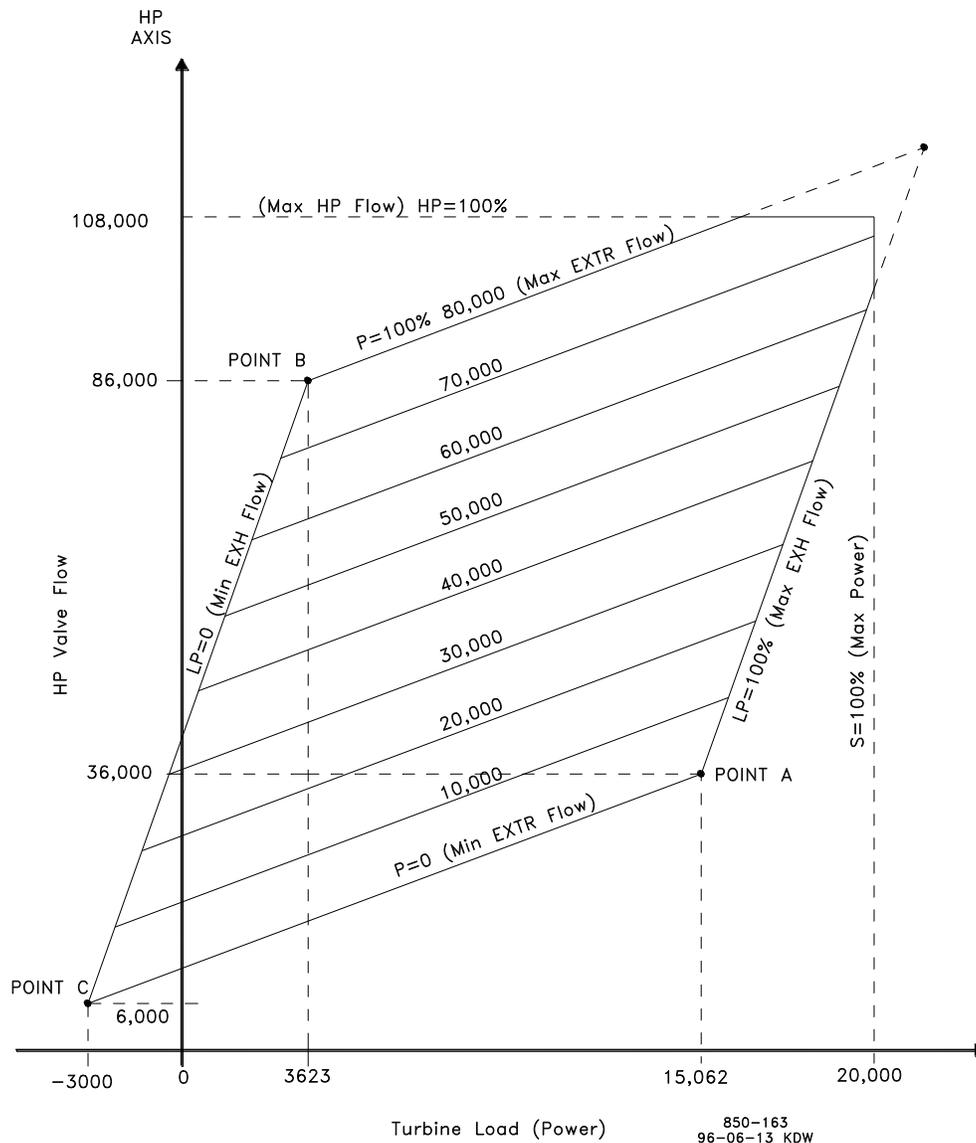

Figure 2-18. Typical Extraction Steam Map
The eight values needed can be taken from the converted steam map. As an example, the following data was derived, using the steam map below in Figure 2-18.
Before a turbine's admission steam map can be programmed into the control, it must have the intersection points A, B, & C (refer to Figure 2-18).
1. Extend the zero admission (or induction) line ($p=100\%$). Refer to Figure 2-18.
The nine values needed can be taken from the converted steam map. An example has been provided using the steam map in Figure 2-18.